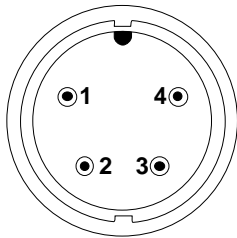

Figure A-5. RF Detector Cable Connector Pin Orientation
- Step 7** Connect the DMM leads between pins 1 and 2 of the rf detector cable connector (Figure A-5). Measure the resistance value, which is the maximum resistance of R1 (approximately 40.5 kΩ is typical). Record this value; it will hereafter be referred to as “R_T”.